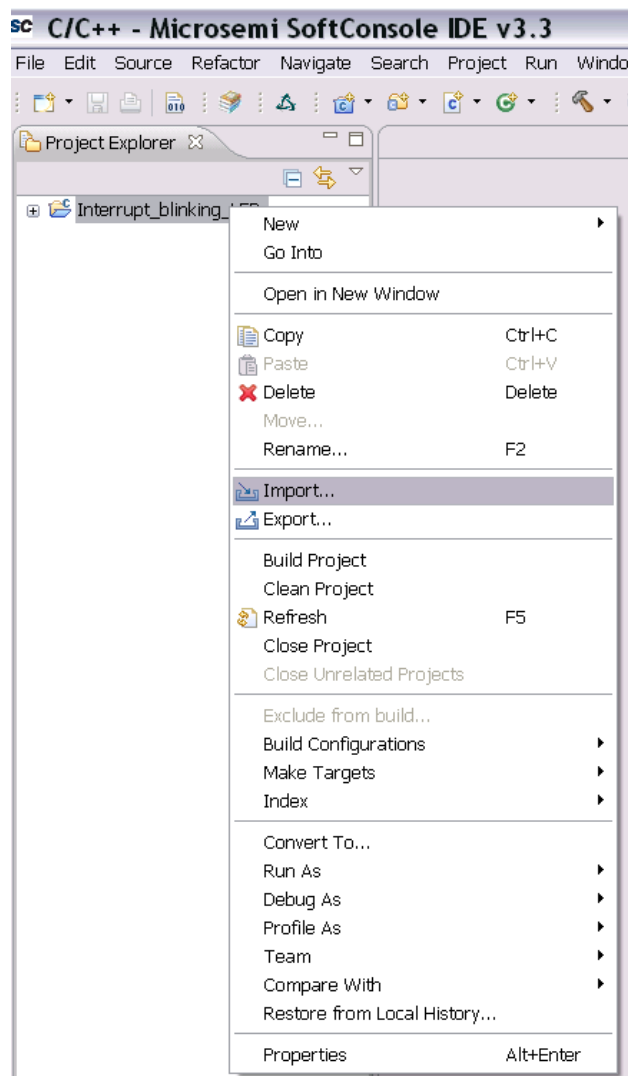

Figure 19 Importing Files into Project
1. Right-click `Interrupt_blinking_LED` and click **Import**, as shown in Figure 19.